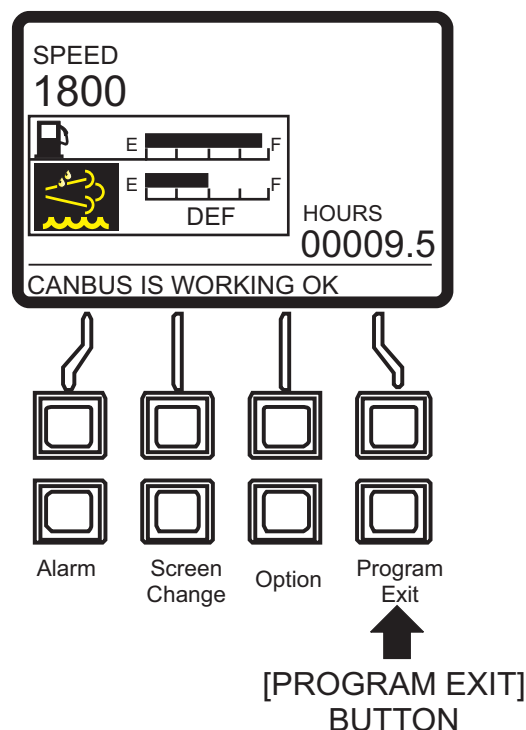

Figure 94. Main Screen
3. Press the **[Program/Exit]** button (Figure 94) to enter the Main Menu.